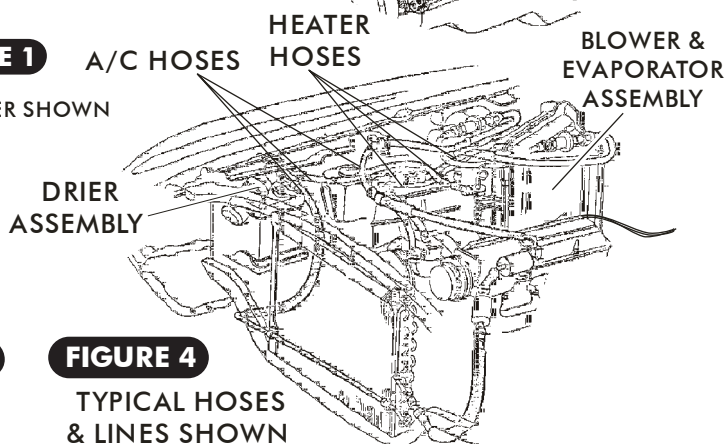

FIGURE 4
- ☐ OEM HEATER HOSES, A/C HOSES, HARDLINES AND DRIER (DISCARD), (SEE FIGURE 4, BELOW).